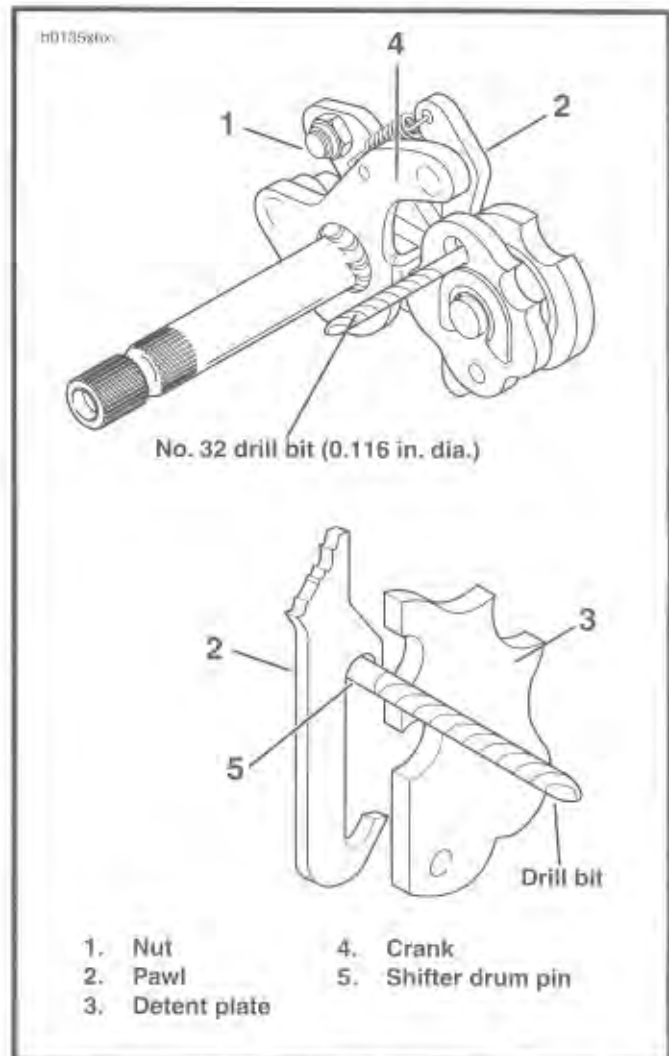

Figure 6-52. Shifter Shaft Assembly Alignment
- Lift pawl (5) over drum pins, and place shifter shaft assembly (6) on studs at transmission case. Loosely install a washer (11) and locknut (3) on each stud.
- Attach the loop of spring (1) over and into groove in post (2).
- Place detent plate (9) over drum pins. Rotate plate until blind holes in plate align with pins in end of drum shaft. Install new retaining ring (10) using TRANSMISSION SNAP RING TOOL (Part No. HD-39151). Verify that retaining ring is fully engaged with drum groove.
- See Figure 6-52. Place transmission in third gear. Place a No. 32 drill bit (0.116 in. dia.) through hole in detent plate (3), and between pawl (2) and drive pin at end of shifter drum shaft. Push down top of crank (4) to remove all clearance between pawl and drill bit; this will correctly align pawl to shift drum pins (do not push down with too great a force, as this might cause the shifter drum to rotate). With bit in place, tighten shifter shaft assembly bottom nut (1) first to 90-110 in-lbs (10.2-12.4 Nm) torque. Then, tighten shifter shaft assembly top nut (1) to the same torque. **Remove drill bit.**